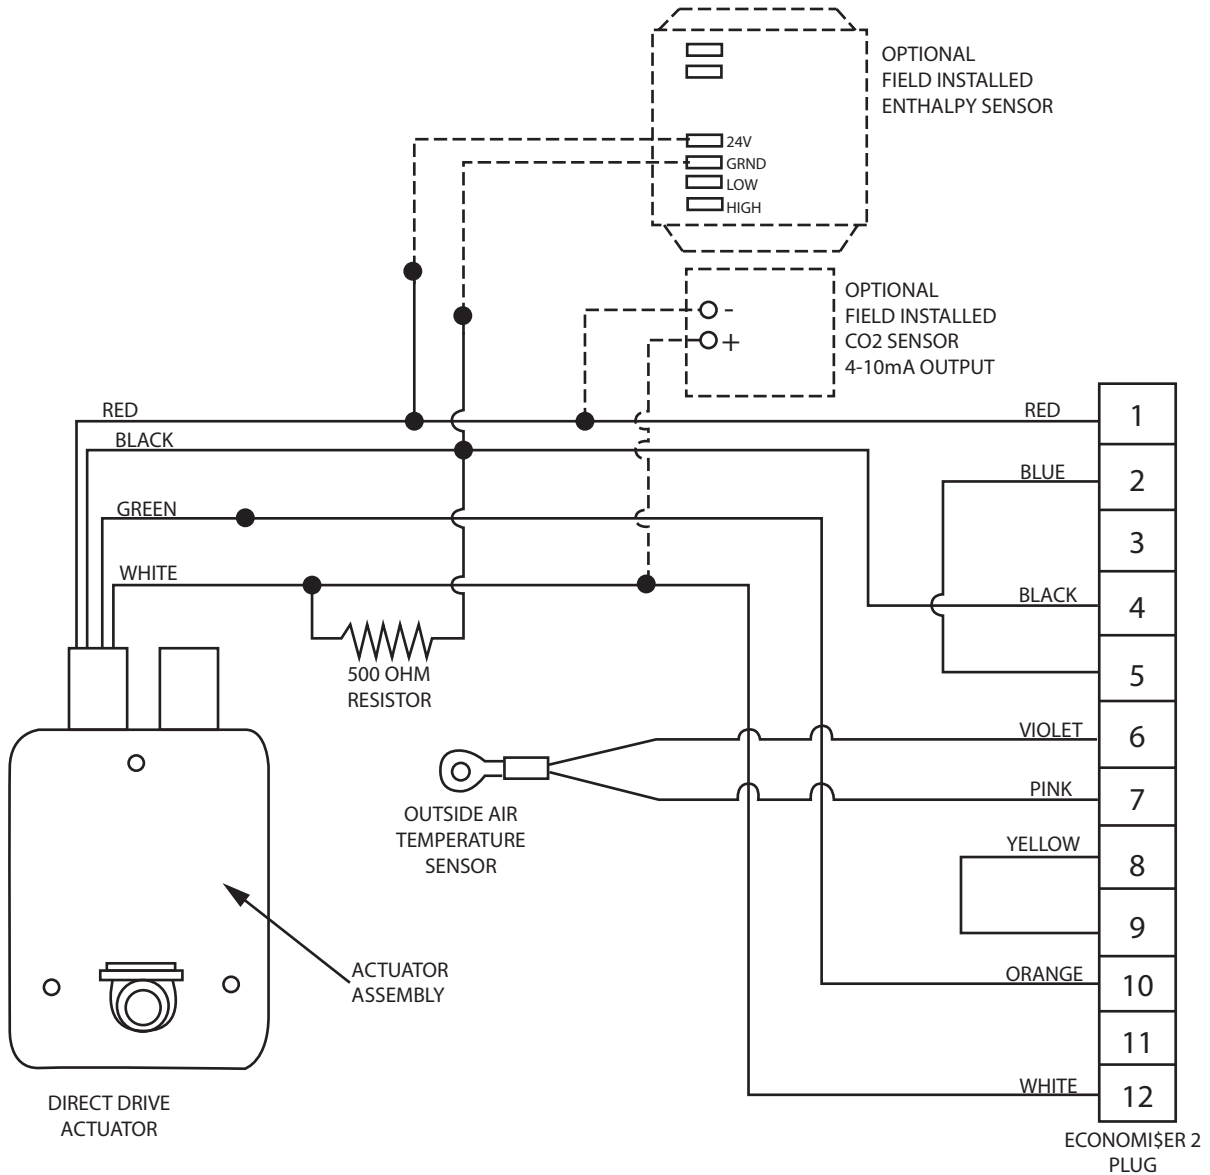

Fig. 9 — EconoMiSer® 2 Wiring Diagram
9. Remove and save the 12-pin jumper plug from the unit wiring harness (located in the upper left corner of the unit). Insert the EconoMiSer[®] 2 plug into the unit wiring harness. Refer to Fig. 9 for wiring diagram.